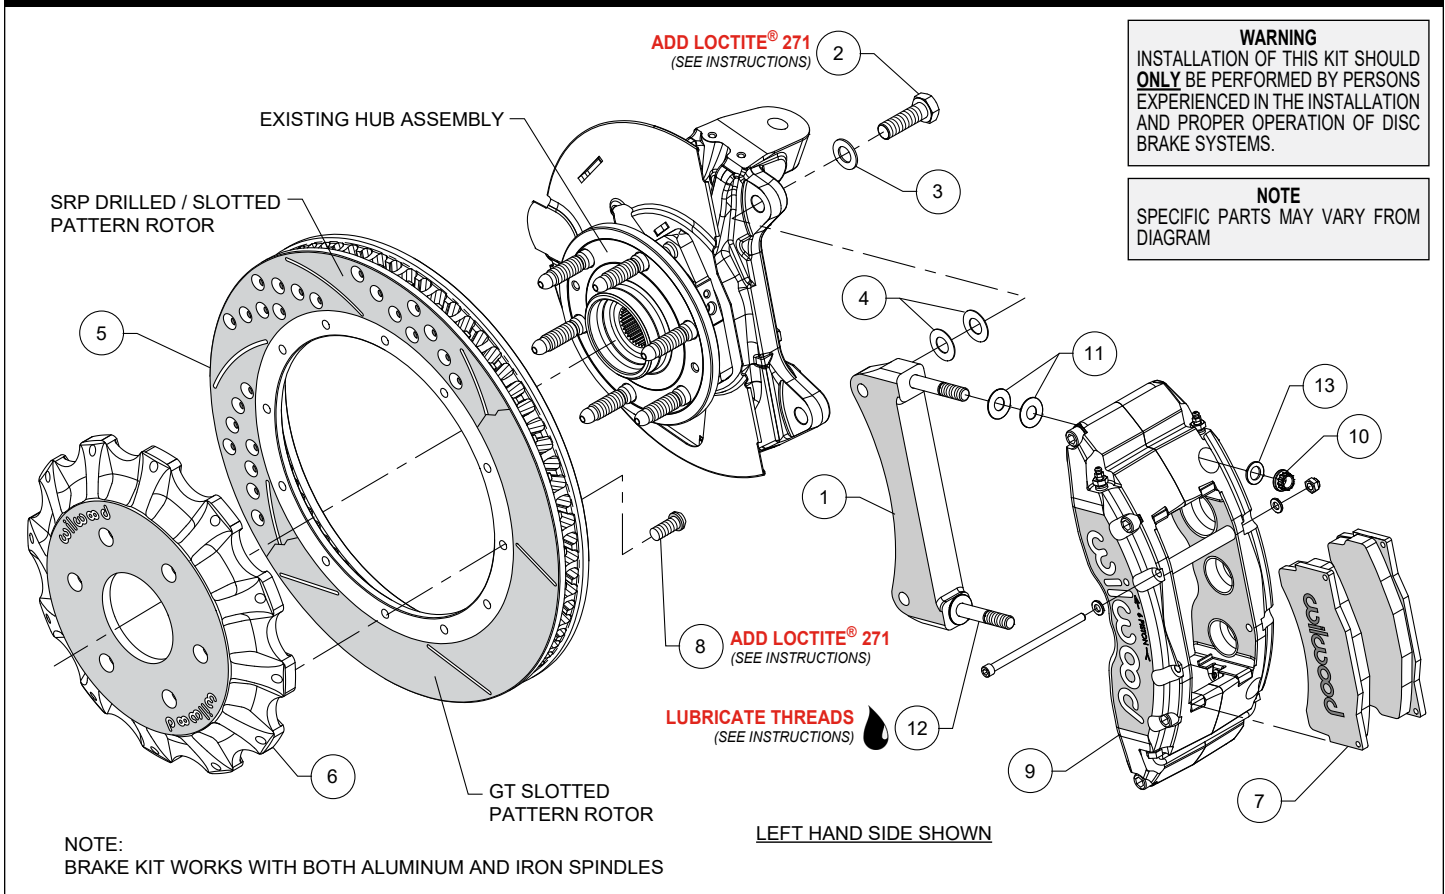

Figure 1. Typical Installation Configuration
**NOTE:** Numbers in parenthesis refer to the parts list and Figure 1 on the preceding pages.
•The caliper mount bracket (1) should initially be installed with clean, dry threads on the mounting bolts. Orient the bracket as shown in Figure 1, and install using washers (3) and bolts (2). Initially place two .029 thick shims (4) on each bolt between the bracket and upright, Figure 1. Temporarily tighten the mounting bolts. **NOTE:** The bracket must fit squarely against the mount bosses on the upright. Inspect for interference from casting irregularities, machining ridges, burrs, etc. Later, after the caliper alignment has been checked, the mount bolts will be secured using red *Loctite*® 271.
•Orient the rotor (5) and the hat (6) as shown in Figure 1. Attach rotor to hat using bolts (8). Finger tighten. Using an alternating sequence, remove bolts (8) one at a time, apply red *Loctite*® 271 to the threads and torque to 25 ft-lb.
•**NOTE:** This kit contains distinct right and left hand calipers that must be mounted in a specific direction, as described below. Lubricate the caliper mounting studs (12) with lightweight oil. Initially place two .030" thick shims (11) on each stud as shown in Figure 1. Mount the caliper (9) onto the bracket (1) using lock nuts (10) and washers (13), Figure 1. Ensure that the caliper is mounted so that the largest pistons are at the rotor exit end of the caliper, in relation to the direction of rotor rotation and with the bleed screws pointing up. Temporarily tighten the lock nuts and view the rotor through the top opening of the caliper. The rotor should be centered in the caliper. If not, adjust by adding or subtracting shims (4) between the bracket and the upright. Always use the same amount of shims on each of the two mounting bolts. Once the caliper alignment is correct, remove the bracket mounting bolts (2) one at a time, apply red *Loctite*® 271 to the threads, and torque to 70 ft-lb.
•Remove the two caliper center bridge pad retainer bolts, nuts, and tubes from the caliper. Insert the brake pads (7) into the caliper, with the friction material facing the rotor. Check that the top of the brake pad is flush with the outside diameter of the rotor. If not, adjust by adding or subtracting shims (11) between the caliper and the bracket. After the caliper pad height is set, reinstall the center bridge pad retainer tubes, bolts, and lock nuts. The lock nut should be snug without play in the bolt or tube. Be cautious not to over tighten. Torque the caliper lock nuts (10) to 47 ft-lb.